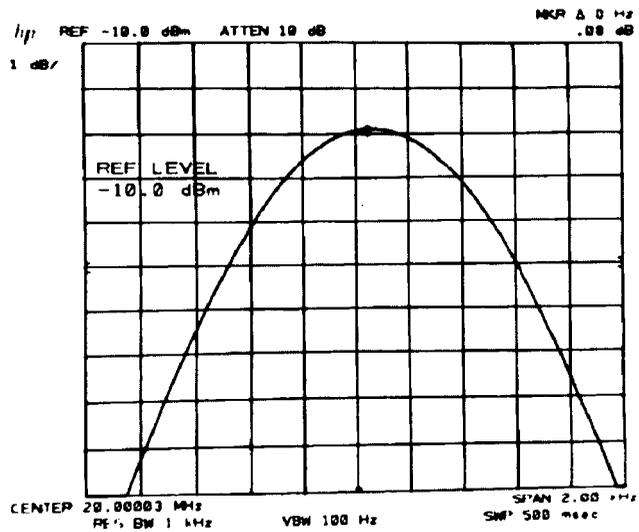

Figure 2-18. IF Gain Uncertainty Measurement
12. Set the analyzer **(REFERENCE LEVEL)**, **(VIDEO BW)**, and frequency synthesizer amplitude according to Table 2-12 settings. (Use the frequency synthesizer **(\downarrow)** for 10 dB steps.) At each setting, note the MKR A amplitude displayed in the upper right corner of the analyzer display (deviation from the 0 dB reference setting) and record it in the table. See Figure 2-18.